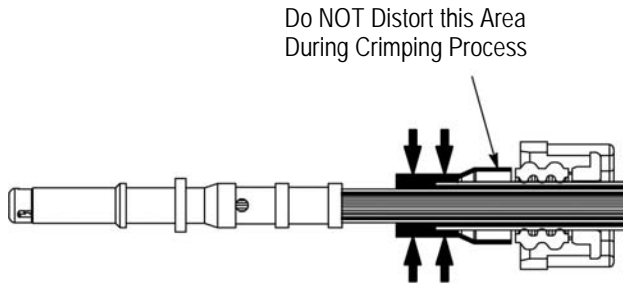

Figure 11
10. Crimp outer ferrule to the braided cable shield and inner ferrule in the area shown using 6.1 mm hex crimp tooling as shown in Figure 11. The hex crimp dimensions should measure  $6.20 \pm 0.10$  mm across all three sets of flat sections and there should be no flash in the hex crimp region.